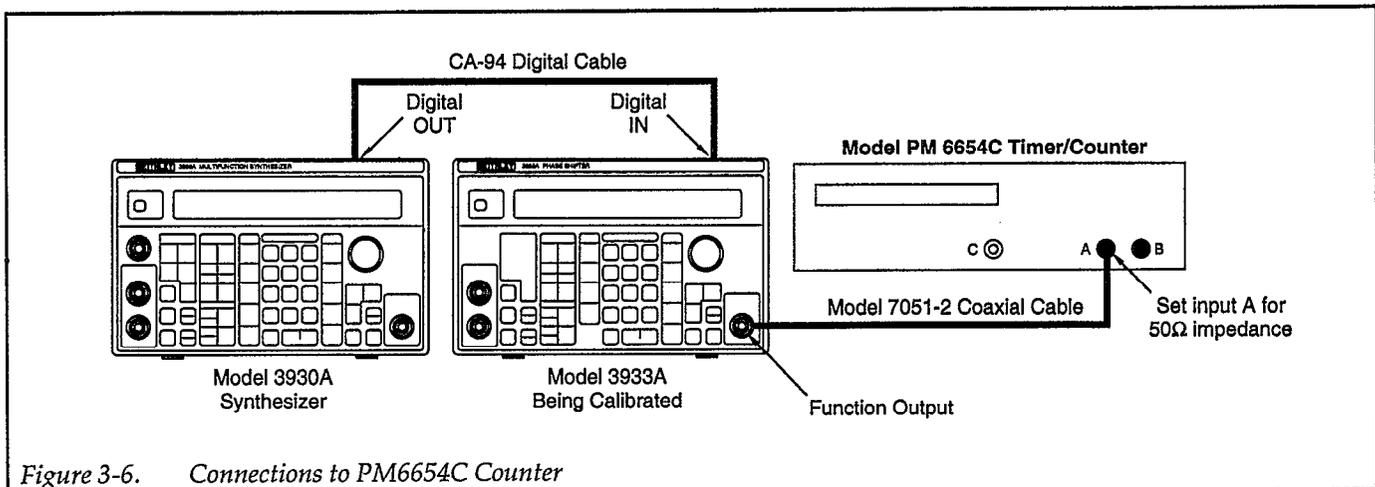

Figure 3-6. Connections to PM6654C Counter
1. Connect the PM 6645C counter A input to the FCTN OUT jack, as shown in Figure 3-6.